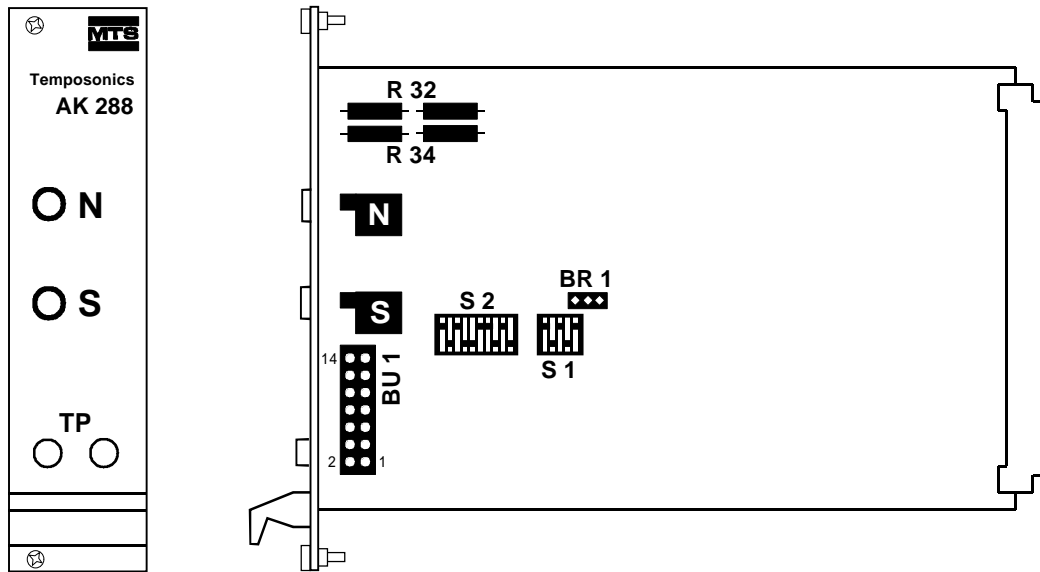

Fig. 7
6. The following signals must be measured at the pins of the test socket " BU 1 " (see fig. 7 / page 7)
For calibration of the Start and End position you need 2 decimal resistors or multispeed helical pot. Setups are done using the resistors **R32** and **R34** (see page 7, fig. 7) as following:
1. Turn potentiometers NULL "N" and SPAN "S" (page 7, fig 7) to the middle position.